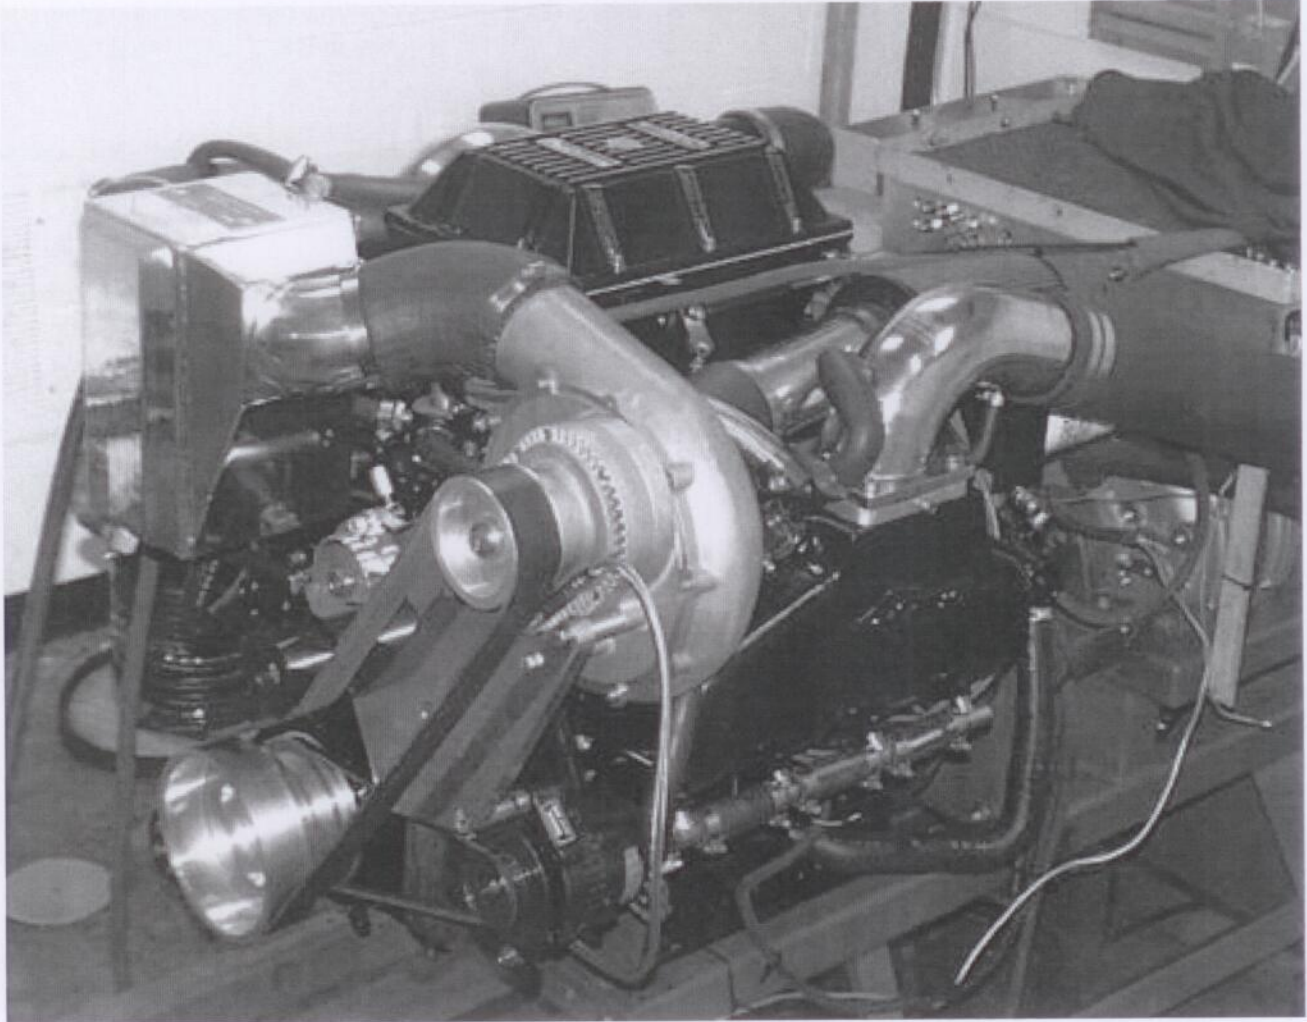

FIGURE I1.
1. Carefully review the entire installation (figure I1). Check oil and fuel lines near moving parts and the exhaust system to ensure that these lines are safe, secure and not twisted or kinked. All wires and hoses should be firmly secured with clamps or wire ties. Also, ensure that the air filter or inlet screen is installed.